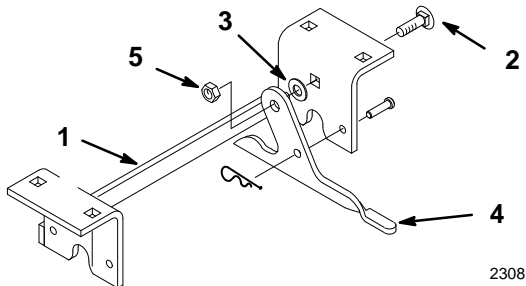

Figure 9
14. Install latch levers to mounting plate with 3/8 x 1" carriage bolts, 3/8" washers and 3/8" lock nuts (Fig. 9).